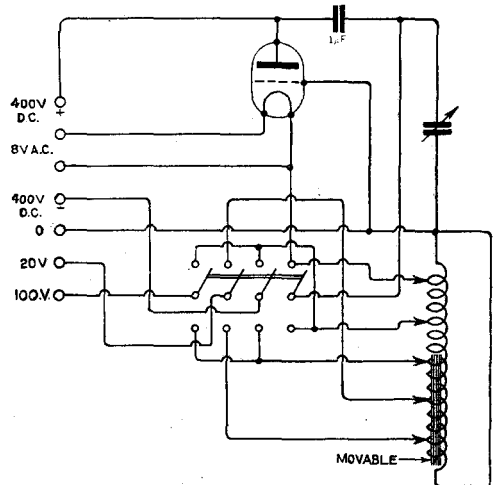

Fig. 1. Audio frequency oscillator designed to produce note frequencies of 150 to 10,000.
H.F. transformer coupling may be used in either circuit, the one-valve circuit being shown in Fig. 3. This gives about the same signal strength as Fig. 1, and is, if anything, a little more stable, but it is not quite so convenient in use.
Now, as to results. Using Fig. 1 on a sheltered aerial 23 miles south of **2 LO**, a small Brown's loud-speaker may be worked well in daylight. A large number of amateurs have been heard, including **2 ZK** (near Birkenhead) and **2 JP** (Yorkshire), **2 ZK** using telephony. Fourteen different French amateurs on 180 metres have also been logged.
Fig. 1 shows a diagram of an oscillator designed to cover a range from 150 to 10,000 cycles. A number of steps of condenser capacity raise the